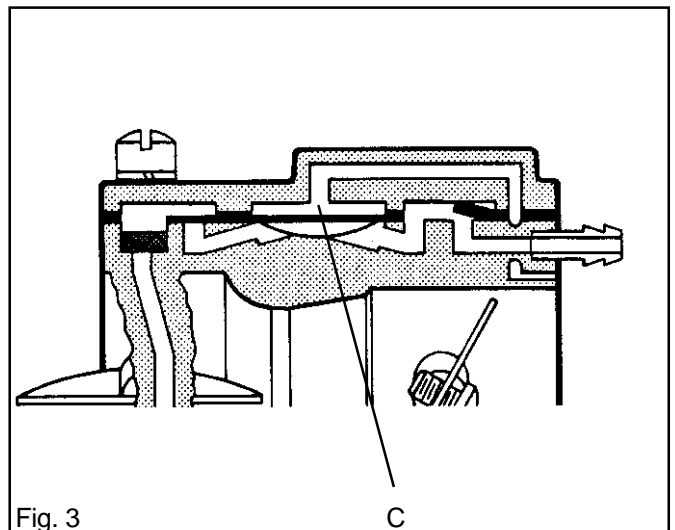

Fig. 3
1. Push the suction pipe (C) into the hole in the crankcase. See fig. 3.
- Pump unit, C in fig. 3.